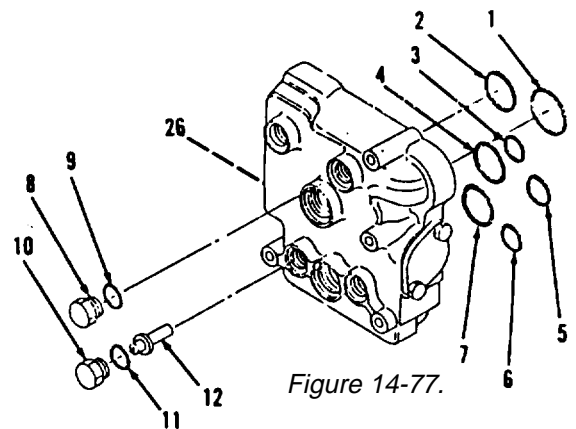

Figure 14-77.
8. Install spacer (21).
10. Install cover (18), two lockwashers (17) and bolts (16).
11. Install cover (15), two lockwashers (14) and bolts (13).
12. Install pin (12), new preformed packing (11) and plug (10, Figure 14-77).
13. Install new preformed packing (9) and plug (8).